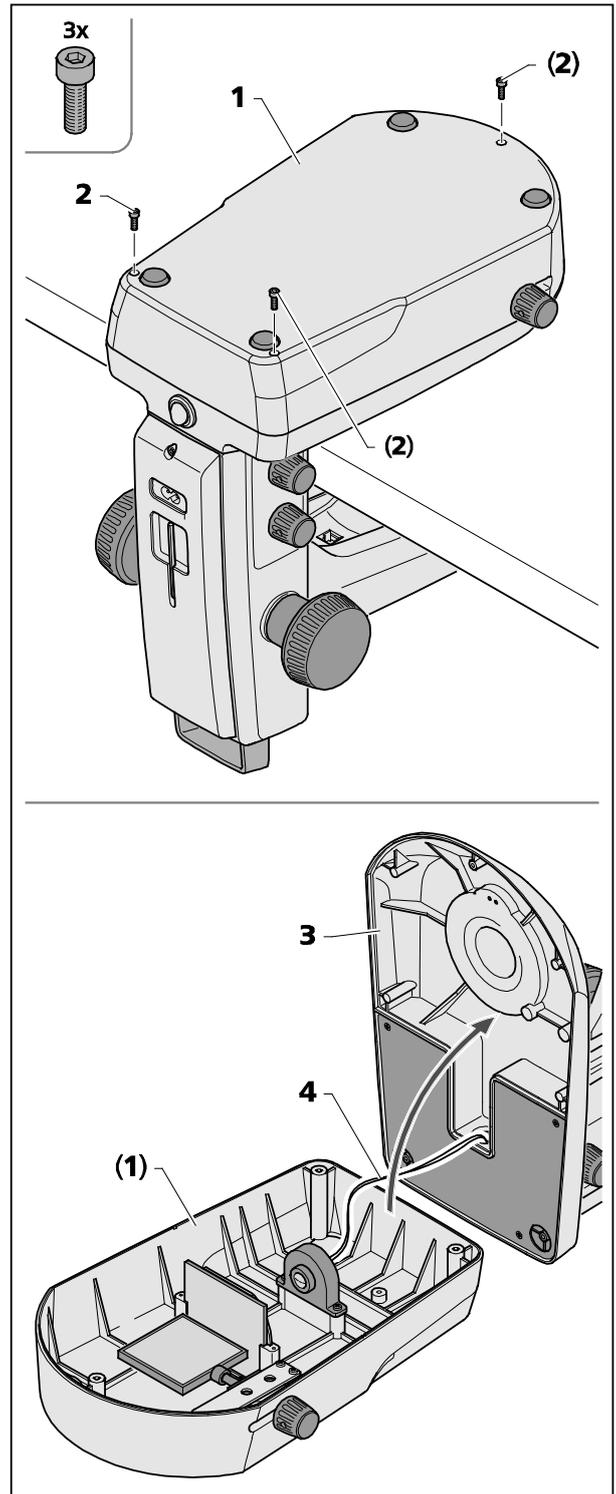

Fig. 23 Opening the stand cover plate,
The transmitted-light base (Fig. 23/1) can be removed from the stand cover plate (Fig. 23/3) for cleaning or for removal of any foreign matter which might have fallen in inadvertently.
- Release the three screws (Fig. 23/2) from the stand cover plate (Fig. 23/1) using an Allen key SW 2.5 and put them aside.
- Carefully lift the stand cover plate (Fig. 23/3) off the transmitted-light base (Fig. 23/1) and put the stand aside.
Make sure that the cable (Fig. 23/4) is not disconnected from the transmitted-light base (Fig. 23/1).